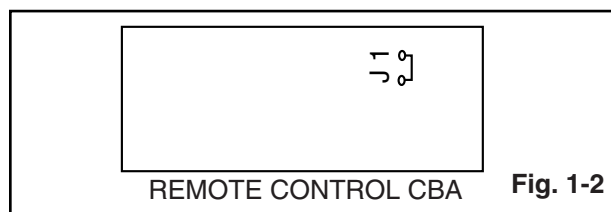

Fig. 1-2
2. Added J1 (Jumper Wire) to the remote control CBA. (Fig. 1-2)